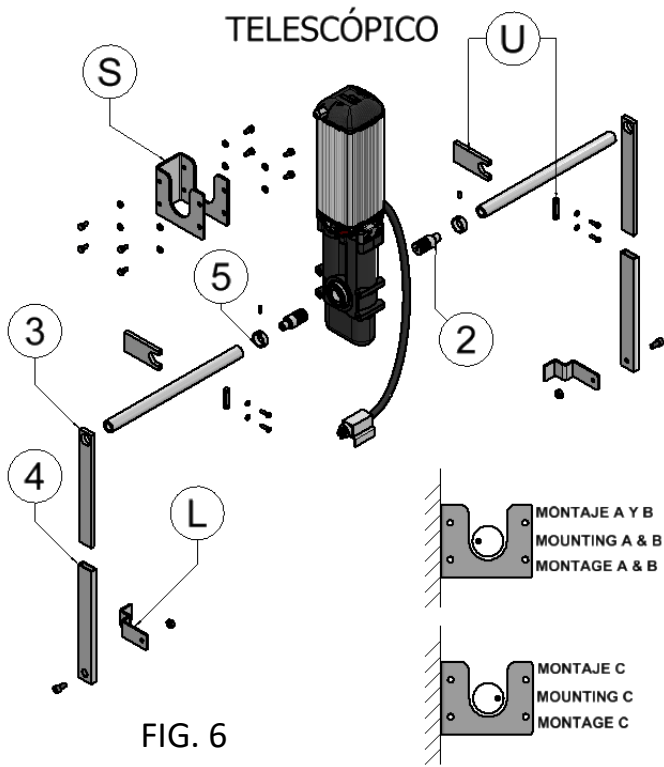

FIG. 6
Fitting Figure 6
1. Fix the motor bracket "S" in figure 6 on the door leaf, in the position shown in figures 2, 3, 4 or 5, depending on the type of installation.
3. Insert part "2" in figure 6 10mm into a transmission rod of external diameter 28 and weld. This transmission rod is not included with the fitting (The drive rod is recommended to be a 4 or 5 mm thickness pressure tube).
4. Position the "U" piece in figure 6 as shown in figure 2, 3 or 4 so that the drive rods are completely aligned with the centre of rotation of the unit.
5. Fix the brackets "L" of figure 6 as shown in figures 2, 3 or 4 depending on the type of assembly.
6. Mount parts "4" of figure 6 to the bracket "L" of figure 6 and insert part "3" of figure 6 into this tube.
7. Insert the transmission rods welded to part "2" through the hole in part "3" of figure 6. Mount the transmission rods in the unit and fix them by the parts "U".
8. The point marked on the right pivot axis of the 2RU* unit must be as shown in figure 6 according to the type of assembly. Before welding parts "3" to the drive rods, turn the shaft of the unit about 5° away from the stop position. Fit the travel stops (markings "5" figure 6). With the door completely closed, proceed with welding.
1. Repeat steps 1 and 2 of the fitting installation, fig. 6.